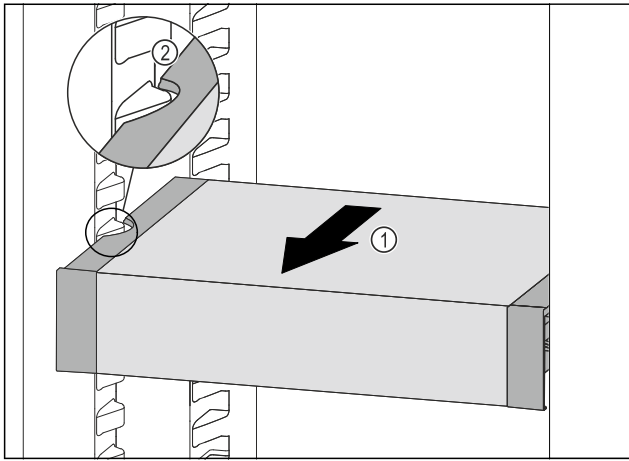

Fig. 151
- ▶ Pull VarioSafe forwards Fig. 151 (1) until the recesses in the side of the VarioSafe are at the level of the support rib in the fridge section. Fig. 151 (2)